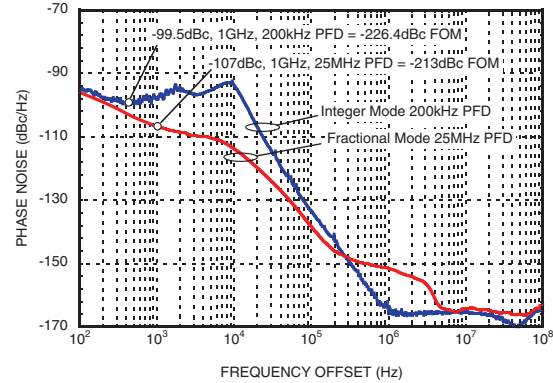

Figure 3.
The HMC700LP4(E) is targeted for ultra low phase noise applications with an external VCO. The synthesizer charge pump can operate with the charge pump supply as high as 5.5 Volts. The charge pump output at the varactor tuning port, normally can maintain low noise performance to within 500mV of either ground or the upper supply voltage (see example figure 3)
It should be noted that the charge pump is a non-ideal device. Phase locked operation with the tuning voltage very near the positive charge pump supply voltage or very near ground will degrade the phase noise performance of the synthesizer. Exactly how close to the supply limits that one should operate is a question of margin needed for the application in question and user judgement. Figure 3. gives some idea of the typical performance near the supply limits. It should be noted that if operation is necessary very near the supply limits, for example less than 500mV from the supply limit, then it is recommended to operate with a DC leakage that leaks in the direction of the supply. For example, if the charge pump supply is 5.5V and locked operation is required with a VCO tune voltage of 5.2V, then operating with UP leakage on the charge pump will improve operation in this region. Similarly if phase locked operation is needed, with a VCO tune voltage of say 300mV, then operating with DN leakage is recommended.